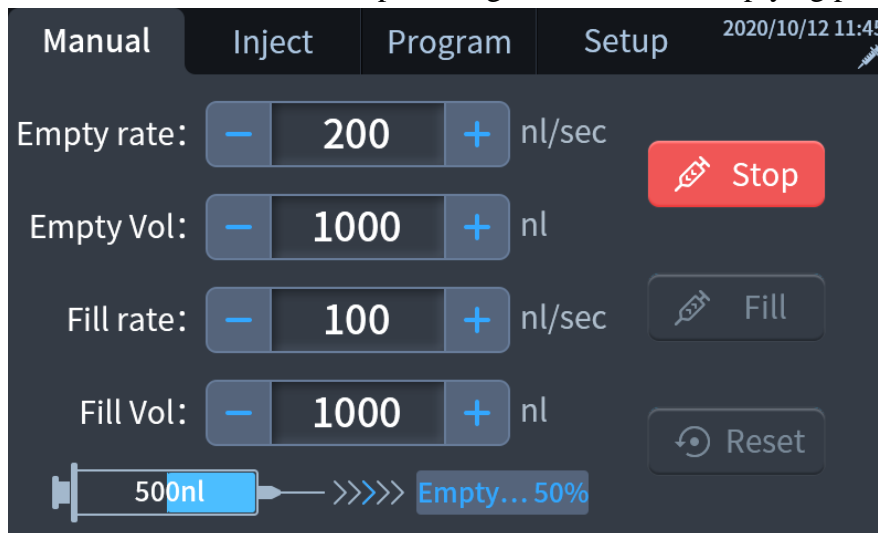

Figure 5-3
- 4) During the emptying process, the emptying progress will be displayed in real time on the [Manual] interface, as shown in Figure 5-3.